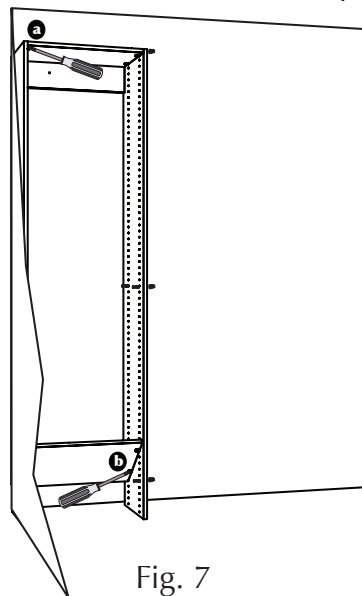

Fig. 7
7. Line up two of the cam locks of the top fixed shelf over the screw-in/double-sided studs and press over the cams to fasten. Tighten the joint by turning each of the cam locks a full 180° clockwise with a Phillips head screwdriver. (See Fig. 7.)